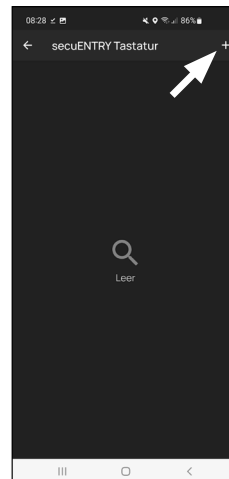

Fig. 6
- 8 A display of already created keypads appears. This is empty during the initial setup. Tap on the "+" in the top right-hand corner to connect a keypad. (Fig. 6).